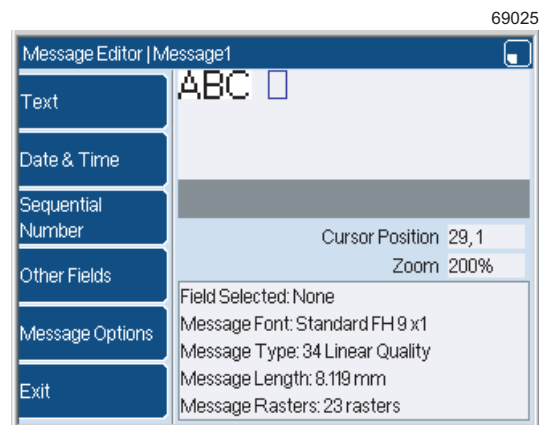

Figure 2. Example message
The *Linx 5900 & 7900 Quick Start Guide* describes how you create a message like Figure 2, then select and edit a field. Perform the following steps to create the bar code for this field.
- 1 At the **Message Editor** page (Figure 2 on page 3), select the text field “ABC”. Then select **Edit > Options** to display the **Options** page for this field.